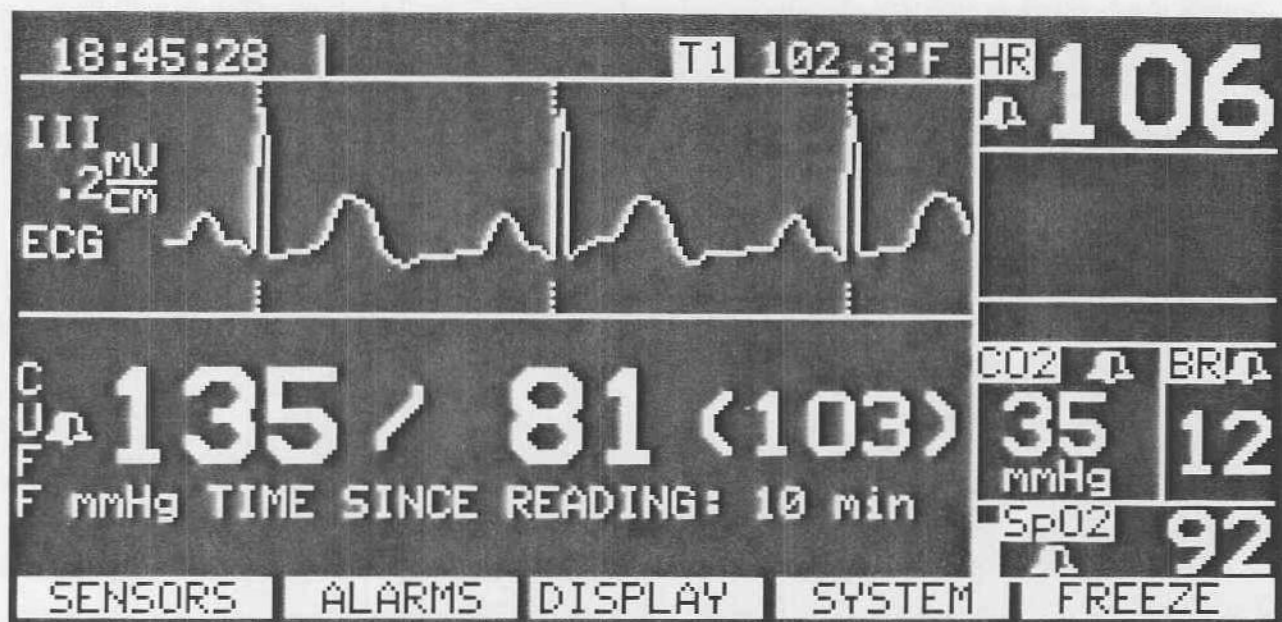

Figure 6-9. The synchronization markers
After the SYNC button is activated, check the Propaq display for dashed lines above and below each R-wave, occurring in near synchronization with each R-wave (Figure 6-9 on page 6-16). These are synchronization markers. Check that the LIFEPAK 5's SYNC button also flashes with each R-wave.
- 6 After the SYNC button has been activated, check that dashed lines appear above and below each QRS on the Propaq display (Figure 6-9 on page 6-16). The LIFEPAK 6s SYNC button will flash with each QRS.